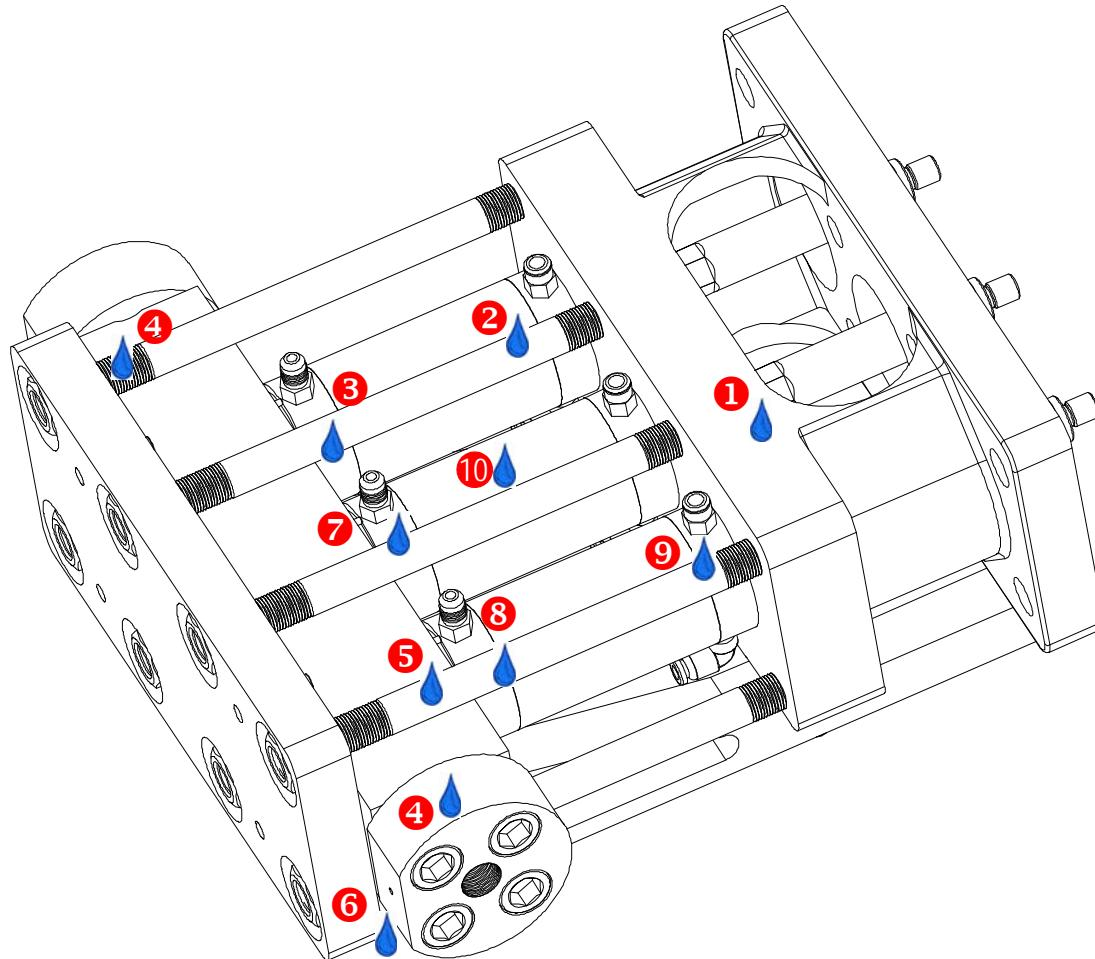

Figure 8-8: Sources of Water Leaks in the Wet End Assembly
5. Check for water leakage between the manifold and check valve bodies, and between the cylinders and check valve bodies (refer to Figure 8-8). If leaking, remove and disassemble the wet end, inspect and clean all parts, and replace seals.
This section identifies the location of possible water leaks in the wet end assembly (Figure 8-8) and suggests possible ways to correct them.
(refer to Figure 8-8)